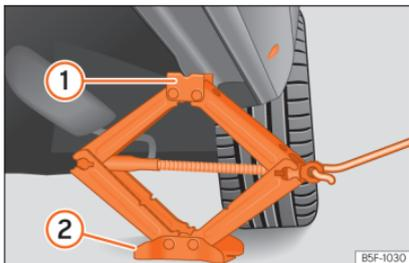

Fig. 41 Cross member: positioning the jack on the vehicle.
- Turn the jack* crank handle, located below the strut support point, to raise it until the tab ① » » Fig. 41 is below the housing provided.
- Align the jack* so that tab ① “grips” onto the housing provided on the strut and the mobile base ② is resting on the ground. The base plate ② should fall vertically with respect to the support point ①.